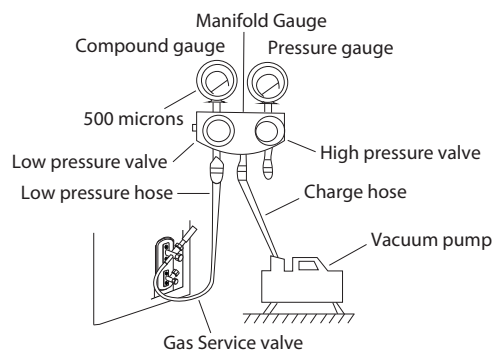
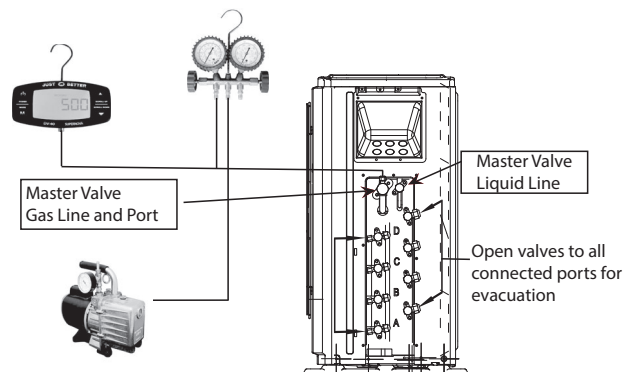

Fig. 27 — Manifold Gauge
Fig. 28 — Manifold Sizes 24-48
3. For size 18, connect the manifold gauge (low side hose) to the Individual Service Valve (5/16 port, use the adapter to fit a 1/4in hose) to evacuate each of the circuits. For sizes 24-48, connect the manifold gauge (low side hose) to the Master service valve (5/16 port, use the adapter to fit a 1/4in. hose) to evacuate all circuits at the same time (see Fig. 27).
5. Open (fully) the low pressure valve of the manifold gauge (see Fig. 27 for 18K. Fig. 28 for sizes 24K-48K).